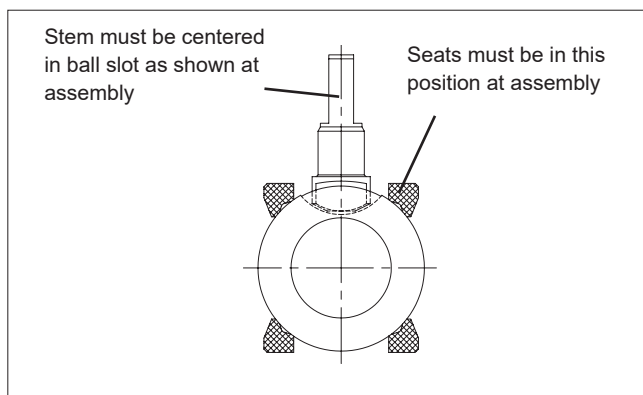
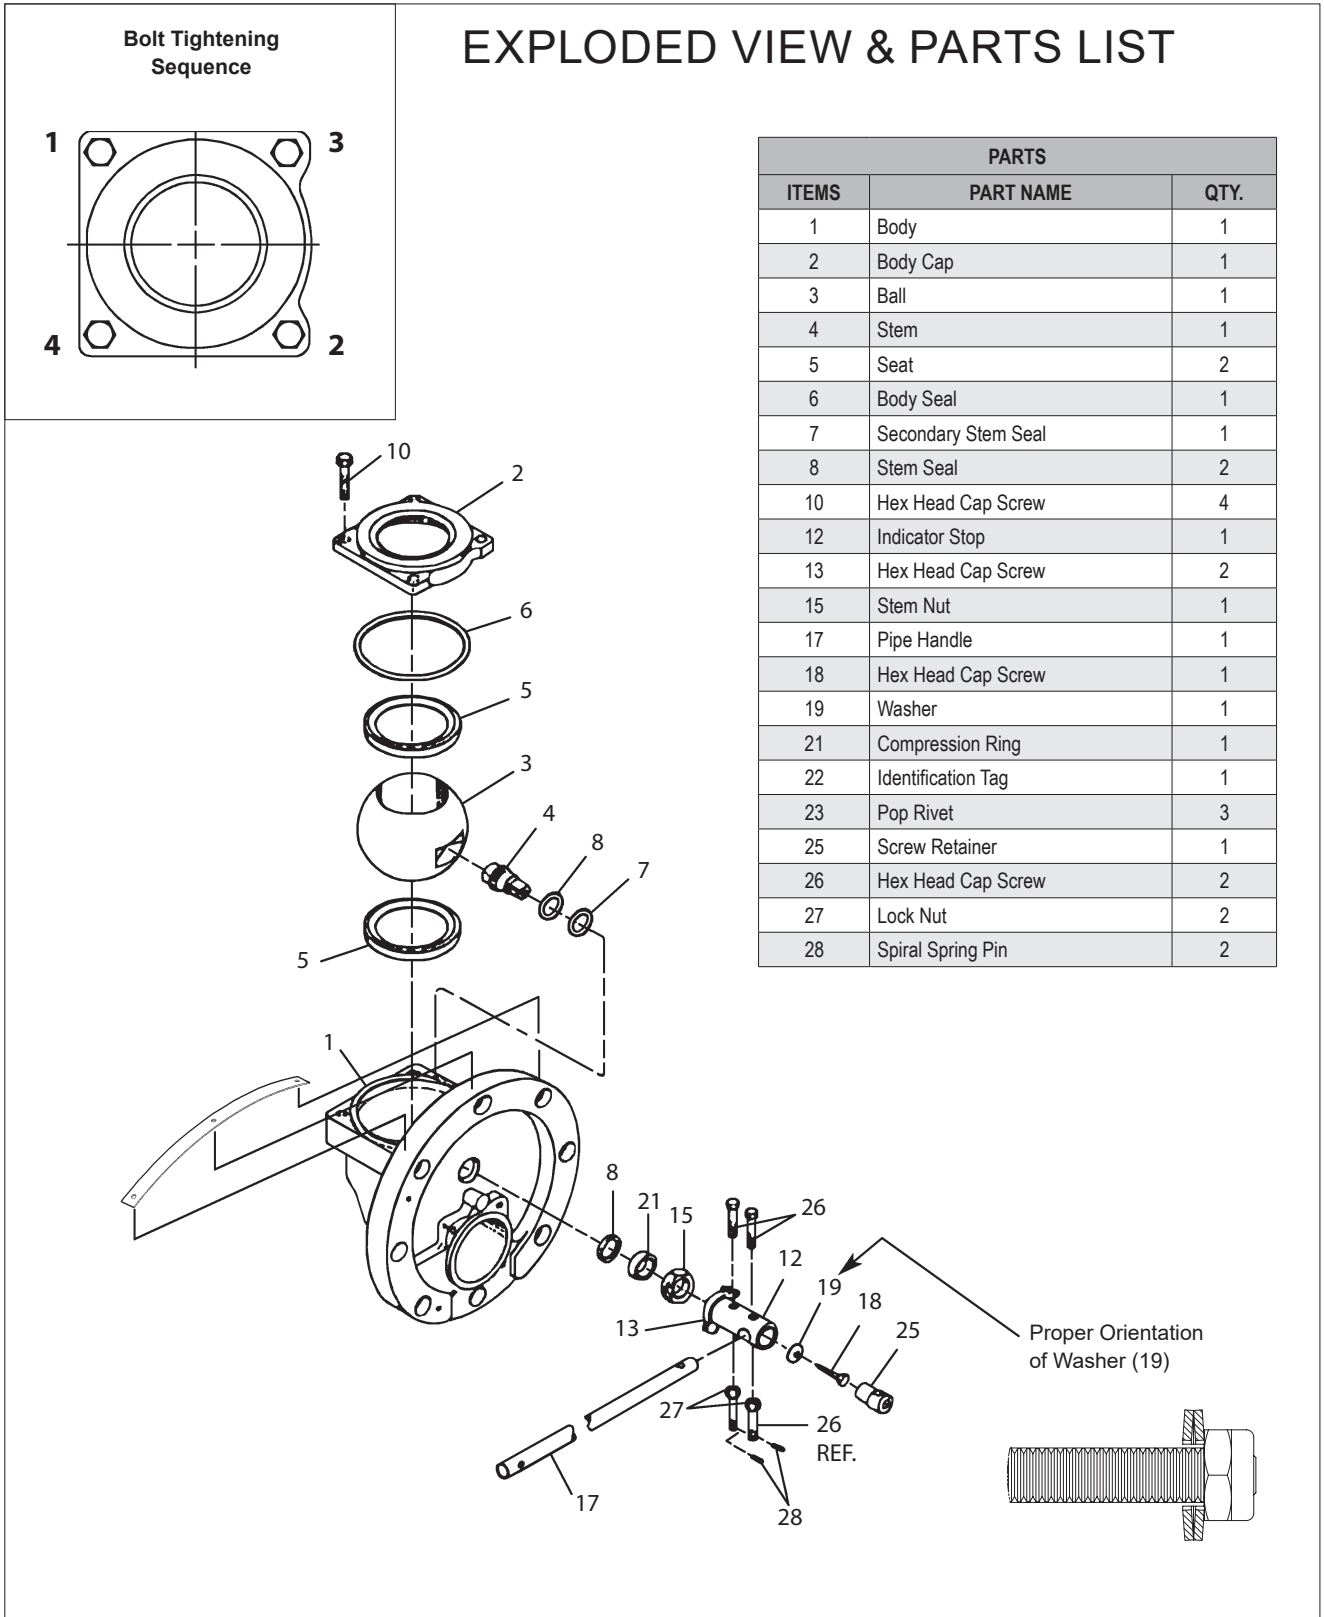

Figure 2. Proper Seat and Ball Orientation
Figure 3.
Although *Jamesbury* valves are designed to work under severe conditions, proper preventative maintenance can significantly help to prevent unplanned downtime and in real terms reduce the total cost of ownership. Routine maintenance consists of tightening the hex nuts (18) in **(Figure 3)** periodically to compensate for stem seal wear. Stem nut torque should be about 240 in-lb. The inspection and maintenance frequency depends on the actual application and process condition.
3. Carefully clean and polish the ball (3) sealing surface: It should be free of all scratches and grooves.
5. With the body cap side facing up, slide one valve seat (5) sideways into the body (1) to below the stem bore, and tilt it into place so that the proper surface (see **Figure 2**) will be adjacent to the ball (3), being careful not to cut or scratch the seat.
6. From inside the body (1), insert the secondary stem seal (7), and the bottom stem seal (8) into the stem bore (see **Figure 3**).
7. Insert the stem (4) through the body cap end of the body (1), being careful not to scratch the stem sealing surface; and press it gently up into the stem bore until resistance is felt from the stem seal.
8. Hold the stem in place from the bottom and insert the top stem seal (8) over the stem (4).
9. Place compression ring (21) over stem (4). Screw the stem nut (15) with the side marked "TOP" being up. Place the stem (4) in the closed position and tighten the stem nut (15) to 70-80 FT·LBS (95-108 N·m).
10. Insert the ball (3) rotating it onto the stem (4) in the closed position. If necessary, turn the stem blade to align with the ball slot. Make certain that the stem blade is in the middle of the ball slot; i.e. equal distance from the ends of the slot. Rotate the ball if necessary (see **Figure 2**).
11. Gently place the body seal (6) into the machined recess of the body (1).
12. Place the second seat (5) into the body cap (2) with the proper surface adjacent to the ball. (see **Figure 2**).
13. Align the body cap (2) over body bolt holes being careful to properly orient body cap and body as originally assembled by matching orientation marks made prior to disassembly. Take care not to damage body seal (6) or seat (5) during this operation.
14. Lubricate the threaded portion of body bolts (10) with NeverSeez® or equivalent. Install body bolts (10) and tighten sequentially as shown in the diagram in **Figure 3**, to the recommended torques as shown in the torque chart (**Table 1**).
15. Place the indicator stop (12) as shown in **Figure 3**, and fasten with washer (19) and hex head cap screw (18). Be sure the washer is orientated as shown. Torque the hex head cap screw to 35 FT·LBS (47 N·m).
16. Place the screw retainer (25) on the hex head cap crew (18) inside of the indicator stop (12). Position the screw retainer so that the hole in the screw retainer lines up with the bottom slot on the indicator stop.
17. Insert the lower hex head cap screw (26) through the indicator stop (12) and screw retainer (25). Assemble lock nut (27) and tighten until the lock nut makes contact with the indicator stop.
18. Drive the spiral spring pin (28) into the hole on the cap screw (26) below the lock nut. Position the spiral pin so that equal amount protrudes on either side of the cap screw.
19. Insert the pipe handle (17). Line up the hole in the pipe handle in the indicator stop (12), and repeat steps 17 and 18 with the upper hex head cap screw (26), lock nut (27) and spiral spring pin (28) for pipe handle assembly.
- c. From **Figure 3**, the ballooned part number, part name and quantity required.